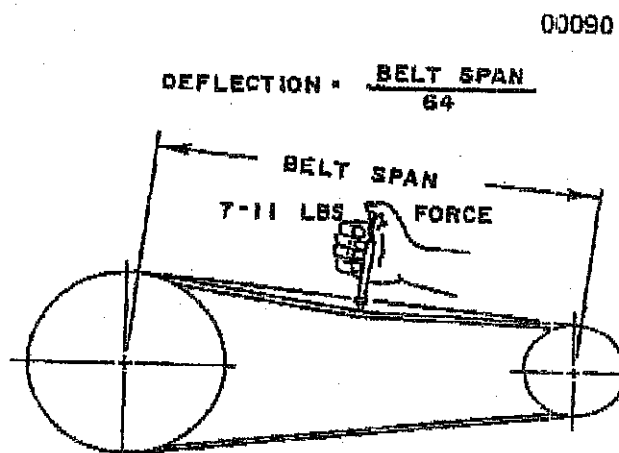

Figure 4-2. Drive Belt Tension
6. The belts must be tensioned as shown in Figure 4-2.